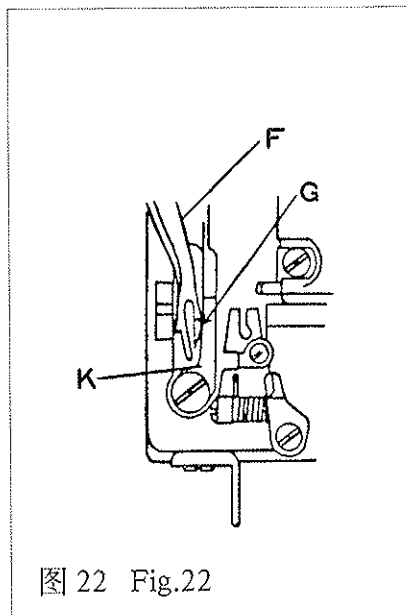

图 22 Fig.22
②转动手轮,检查钩线叉“F”运动到机针护板“K”的最近点“G”时是否相碰(图 22),如果相碰必须将偏心支承套向左作微量调整。
② Turn handwheel to make the pronged thread hook "F" move towards the nearest point "C" on needle guard "K" (Fig.22), if "F" comes into contact with "G", fineadjustment of the eccentric supporting sleeve shall be made.